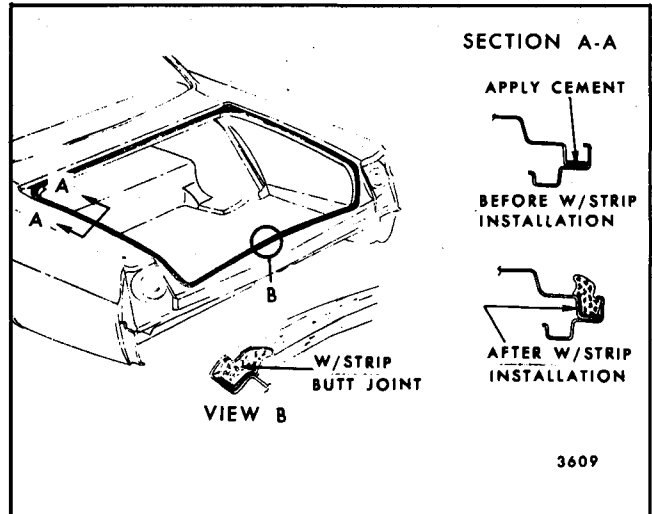

Fig. 8-20-Rear Compartment Weatherstrip
1. Separate "butt" ends of weatherstrip at bottom rear of opening ("B" Fig. 8-20).
2. Using flat bladed tool, such as sharp bladed putty knife, carefully cut cemented bond of weatherstrip from outer surface of gutter (Fig. 8-20). Then, with a narrower sharp tool, such as a wood chisel, cut cemented bond of weatherstrip from bottom of gutter around opening and remove weatherstrip.
4. Apply generous bead of black weatherstrip cement to bottom surface of gutter around opening (Fig. 8-20). With suitable brush, gently level applied cement.
and outer surface of gutter completely around opening to assure a watertight seal (Fig. 8-20).